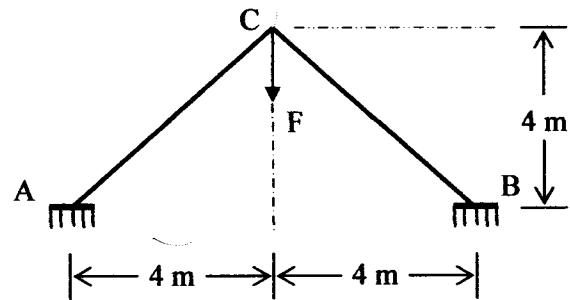

FIGURE Q6
- (b) A rigid jointed steel frame ABC carry a vertical load W as shown in Figure Q6. Derive the instability equation and find the critical load (P_{cr}) for the frame by referring to Table 1. Take $I_{AB} = 10 \times 10^6 \text{ mm}^4$ and $I_{BC} = 12 \times 10^6 \text{ mm}^4$. (18 marks)